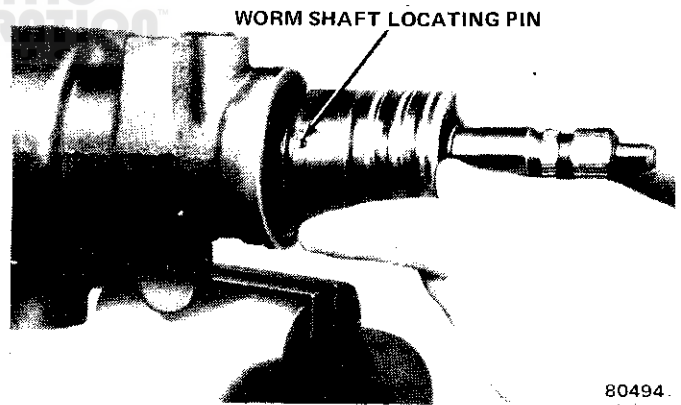

Fig. 2L-38 Valve Body-Wormshaft Installation
(6) Install assembled valve body and wormshaft in housing. Be sure wormshaft locating pin is still fully engaged in valve body notch before installing (fig. 2L-38).